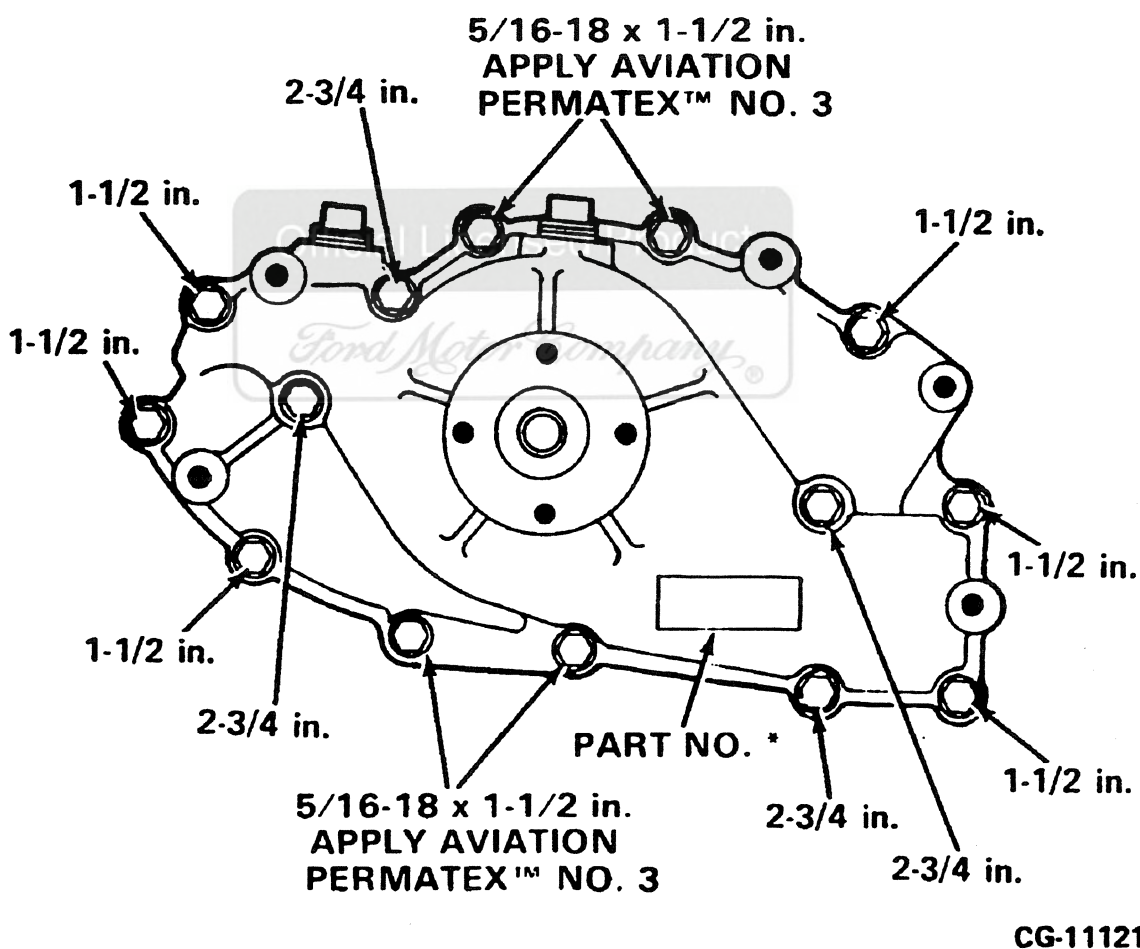

Figure 7.11. Water Pump Bolt Location For Installation
- Apply Aviation Permatex™ No. 3 to the designated bolts. Refer to Figure 7.11. Install the bolts within 5 minutes of the Permatex application.
- Install the water pump assembly using 1-1/2 in. long bolts and 2-3/4 in. long bolts as illustrated in Figure 7.11.